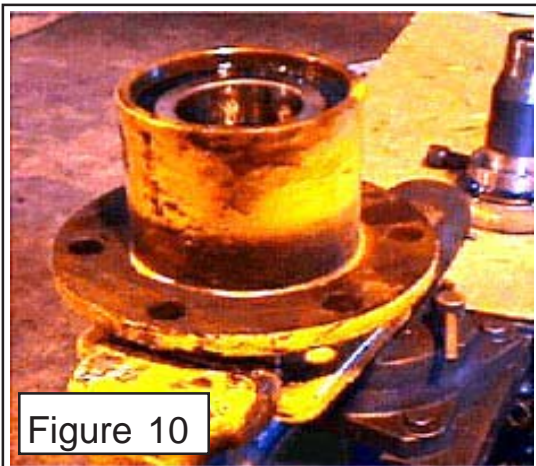
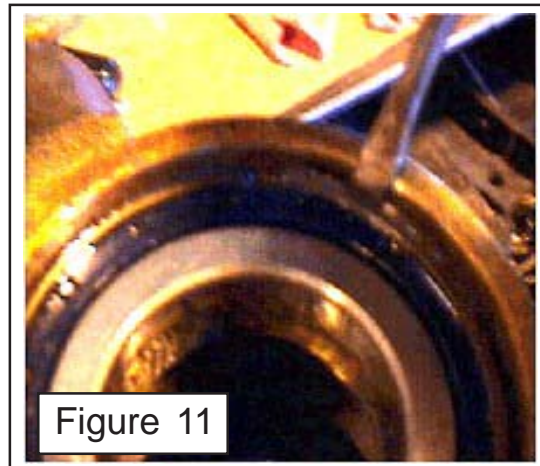

Figure 10
Figure 11
8. Place the housing in a suitable vise with the motor flange facing down as shown. (figure 10). Use a flat blade screwdriver to remove the seal retaining ring. (figure 11).